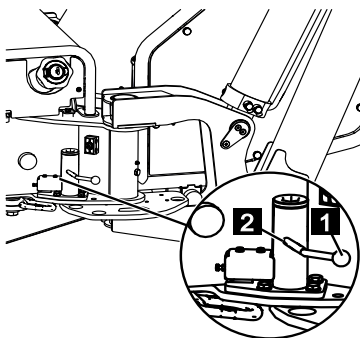

Fig. 124
2. Use your free hand to push the latching bolt on the handle bar (Fig.124/1) up along the link (Fig.124/2) until the outrigger can be pivoted freely.